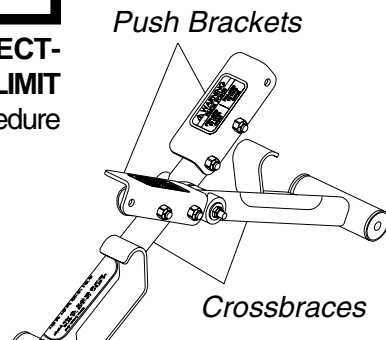

FIGURE 2 - TRANSPORTING EXCEL - CAPTAIN'S SEATS
Unfolding/Folding - Captain's Seat (FIGURE 2)
2. Assemble the wheelchair. Refer to **FIGURE 2**.
4. Remove the batteries and footrests/legrests from the wheelchair. Refer to **FIGURE 2**.